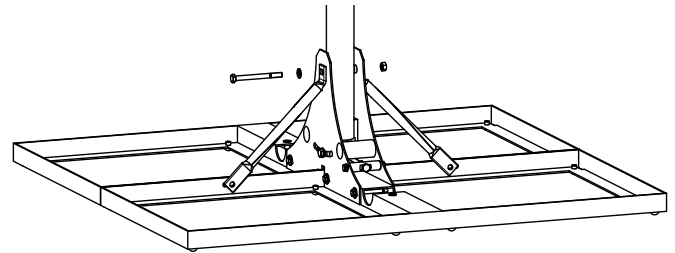

Abb. 4: Attaching the stabilising legs (1)
5. Attach the two stabilising legs to the upper part of the mast foot using a M10 x 110 screw with a torque of 25 Nm (Fig. 4).